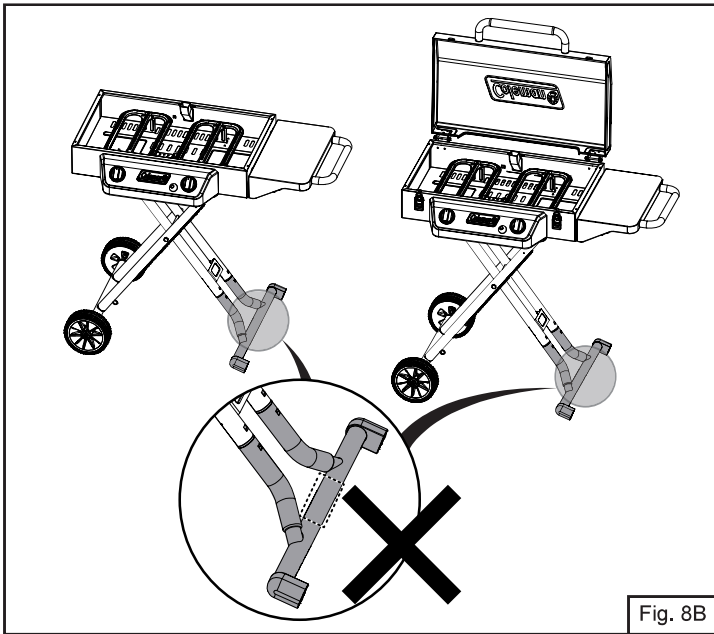

Fig. 8B
**NOTE:** It is correct to see the warning text facing upward (Fig. 8A). Otherwise is incorrect (Fig. 8B).